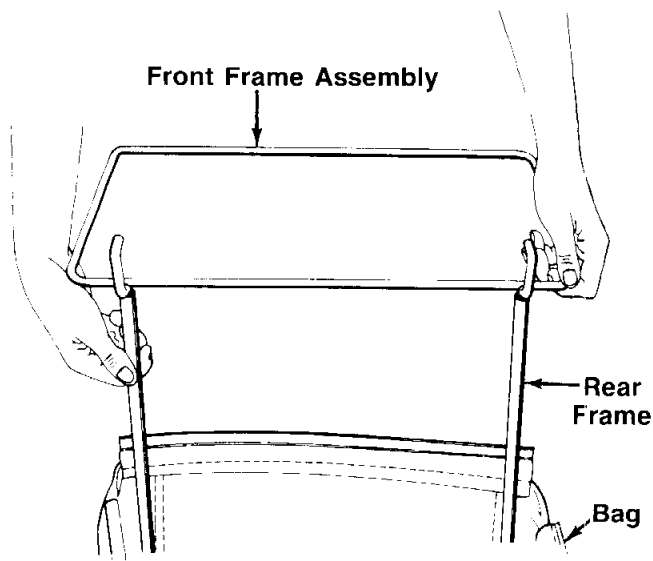

FIGURE 15.
3. Join the rear frame and front frame assembly as shown in figure 15.